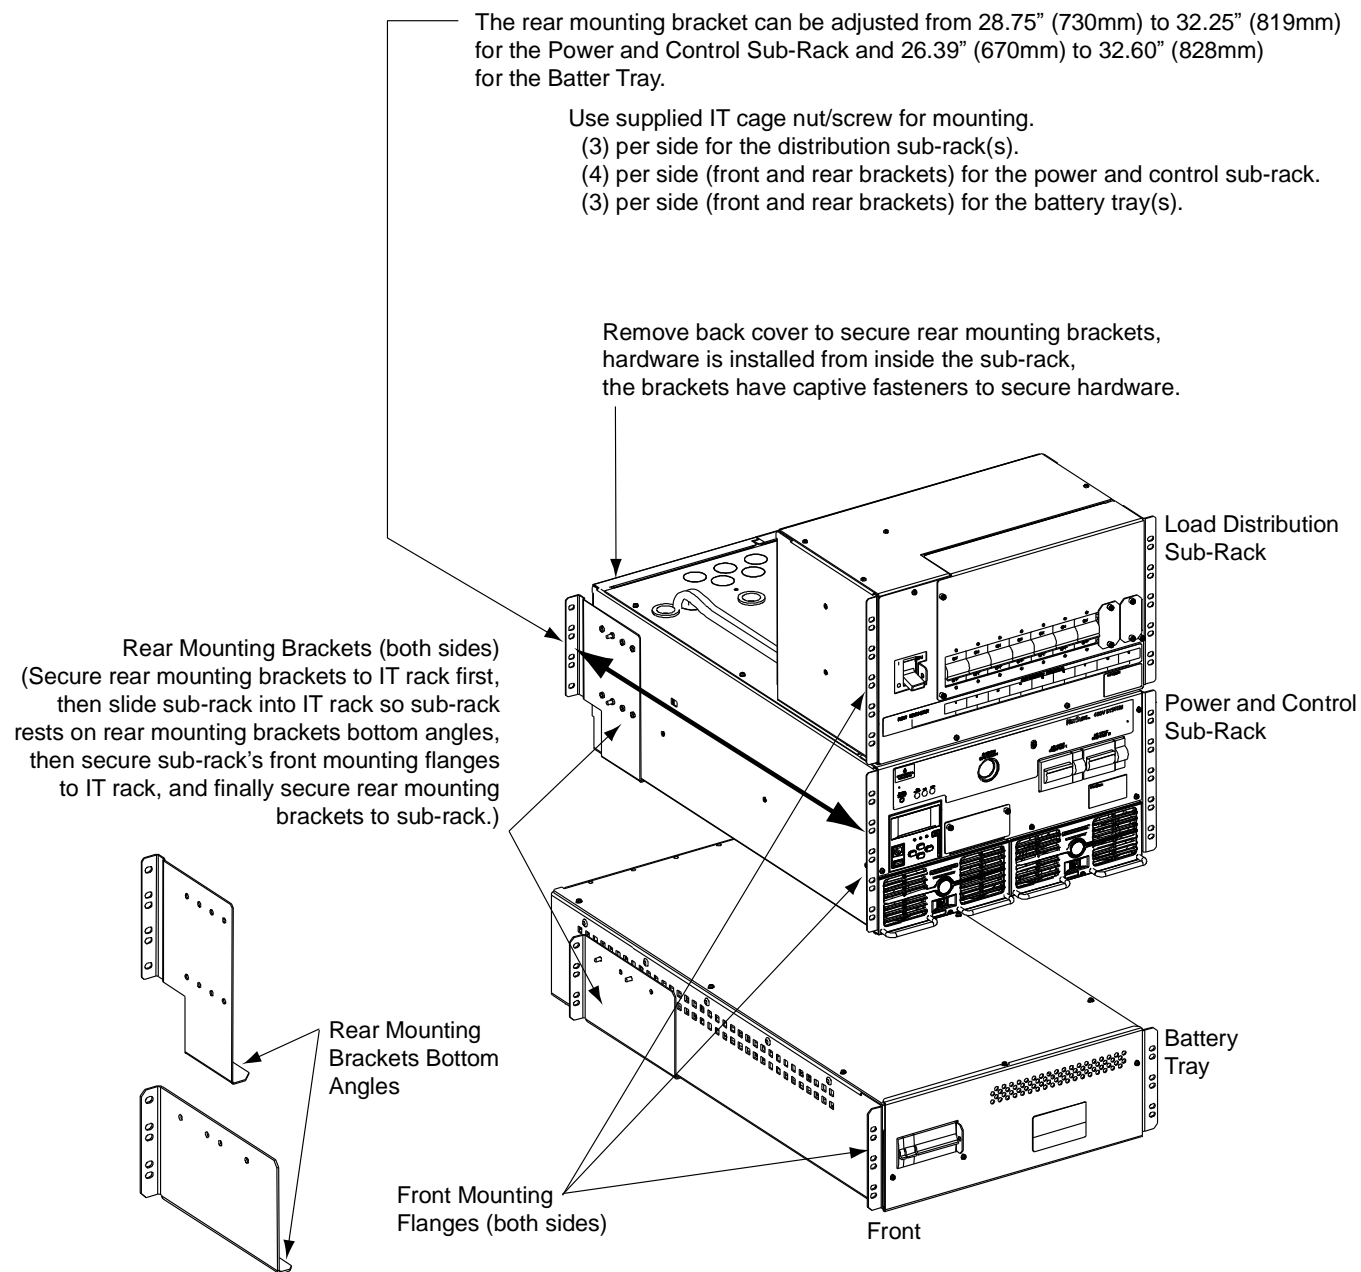

Figure 2-2
**Note:** *Refer to Figure 2-2 as this procedure is performed.*
**Note:** *The system consists of one (1) power and control sub-rack.*